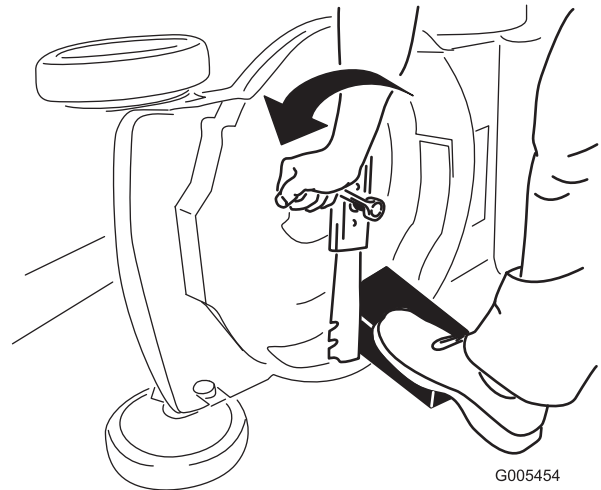

Figure 37
3. Use a block of wood to hold the blade steady (Figure 37).
4. Remove the blade, saving all mounting hardware (Figure 37).